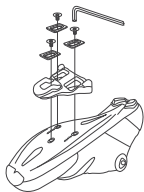

Figure 2. Screw installation
3. With the included washers in place, loosely install the cleat mounting screws (Figure 2).